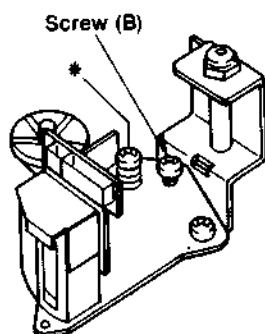

Fig. 2-22
- Playback the beginning portion of a blank cassette tape and confirm that the tape runs between the lower and upper limiter of P4 post. If there is waving or curling in the lower edge or top edge of the tape, correct the tilt of the a/c head by turning screw B, see Fig. 2-22 located behind the A/C head. Fig. 2-23 shows the direction how the turn to correct curling.